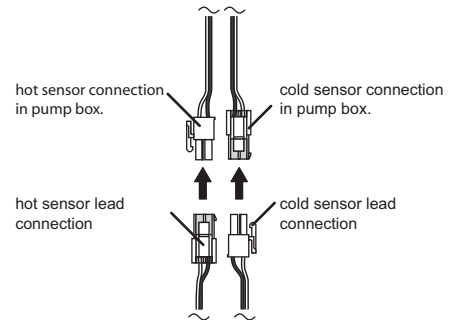

Figure 39 - Temperature Sensor Leads
1. Ensure hot and cold sensors are connected as shown in **Figure 39**.